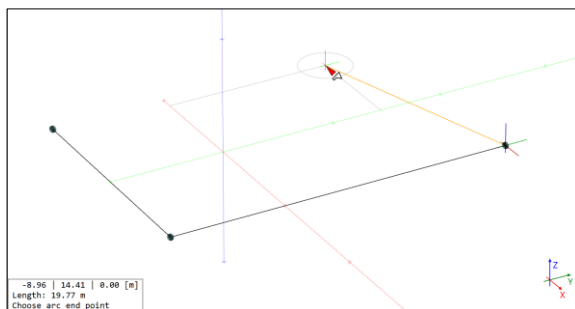

Figure 7.14 Setting the end point of the arc after activating the submode.
2. The end point of the arc (Figure 7.14). This is the first location that has to be chosen after activating the arc submode. It can be at any 3D coordinates.